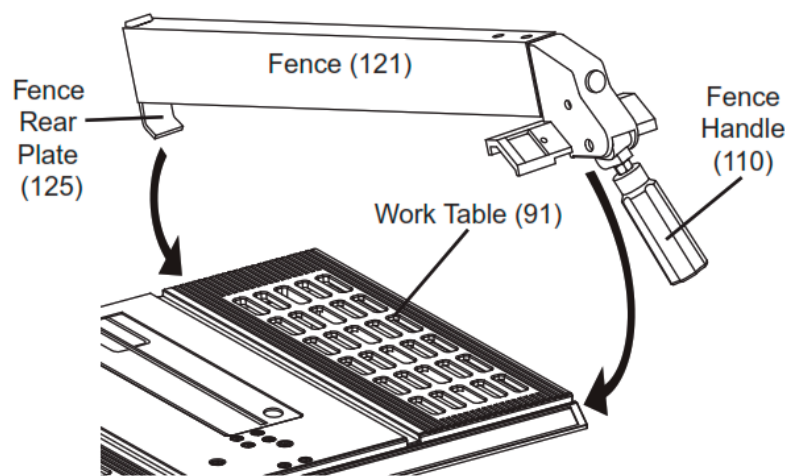

Figure 15
1. To attach Fence (121) to Work Table (91), raise Fence Handle (110) and slip the Fence Rear Plate (125) over the back edge of Table. See Figure 15.